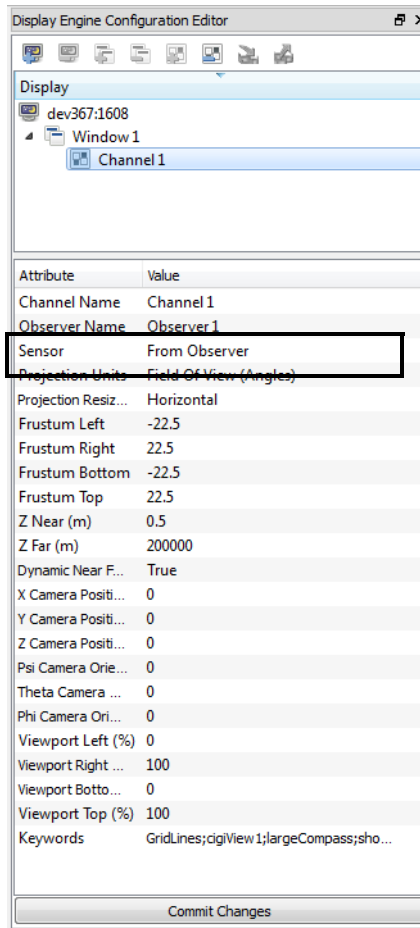

Figure 1-3. Display Engine Configuration Editor
2. Select the channel for the remote display engine. By default, the Sensor attribute has the value From Observer (Figure 1-3).